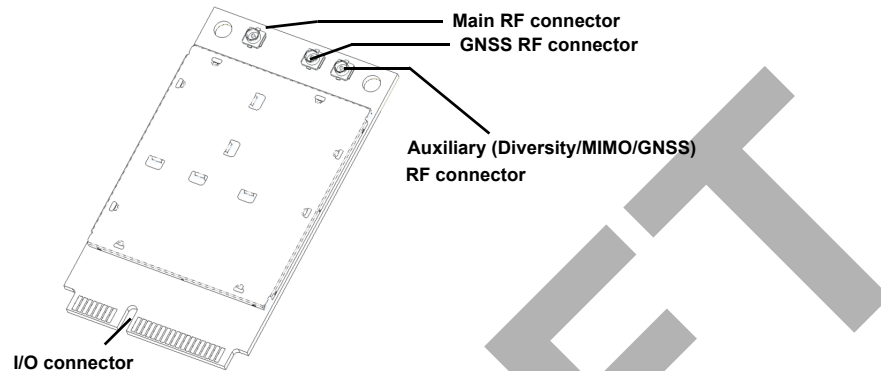

Figure 3-1: Module Connectors (Preliminary shield design, subject to change)
- Use Hirose U.FL connectors (3 mm x 3 mm, low profile; model U.FL #CL331-0471-0-10) to attach antennas to connection points on the module, as shown in Figure 3-1 on page 30.
- Connect to system ground using the two mounting holes at the top of the module (shown in Figure 3-1 on page 30).